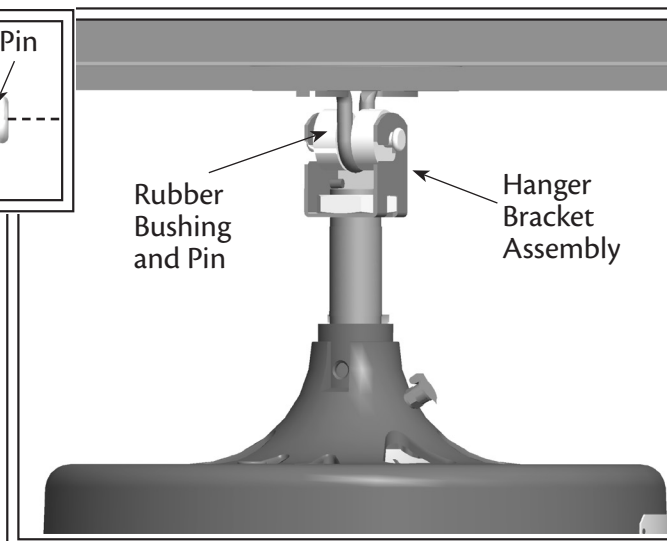

Fig. 7b
10. Lift the fan by the motor housing. Hook the hanger bracket assembly onto the rubber bushing and pin. Ensure both ends of the pin are outside the hanger bracket assembly (see Fig. 7b).